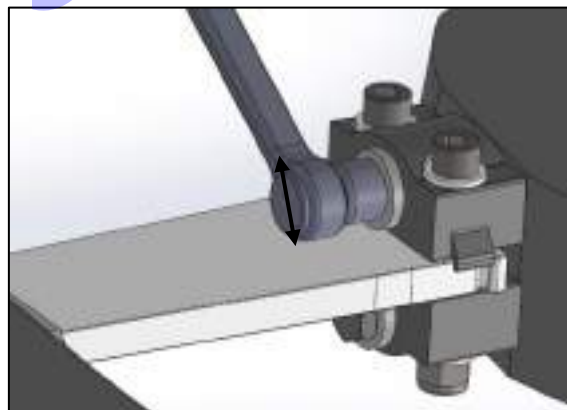

Figure 7 – Bolts tightening with proper wrench
- Torque wrench with proper head dimensions (see figure 7);
ATTENTION: Bolts connecting blade to hub must be tightened by the use of a proper torque wrench, with reduced dimension of the head as shown in figure 7.